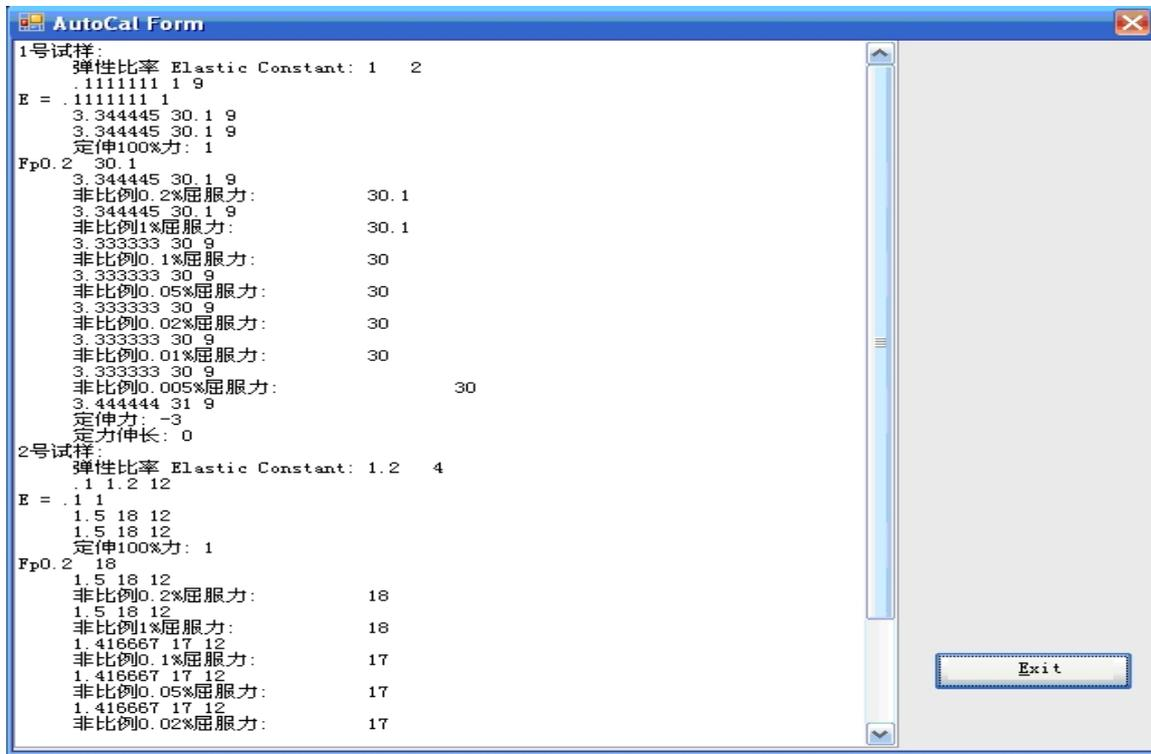

Figure 4 - 10a
- ① recalculate(A) selected recalculate , calculation form shown in Figure 4 - 10a, show the calculation process parameters;
- ② data(D) to view the original test data, show the original data form shown in Figure 4 - 10b and Figure 4 - 10c, using the button "first", "Previous", "Next", "last" "browse-by-sample.